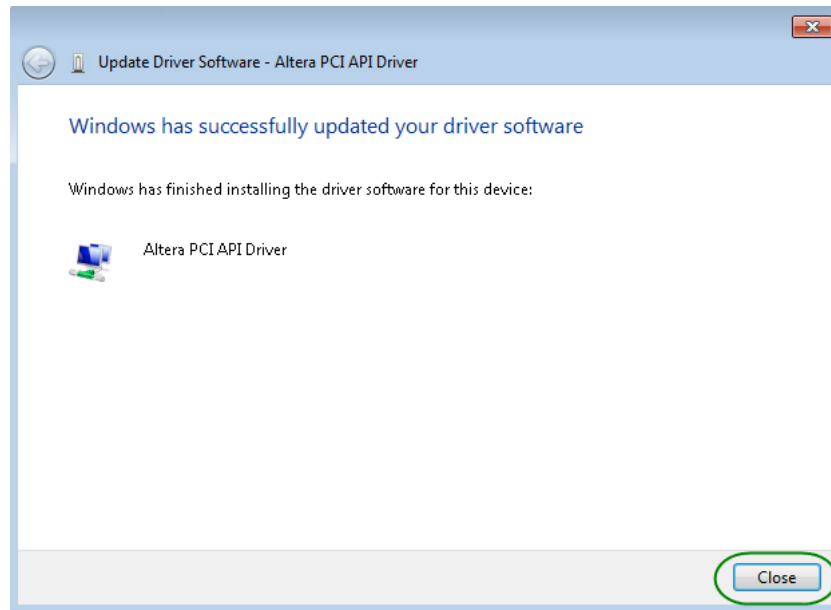

Figure 6-7 Click Close when the installation of the Altera PCI API Driver is complete
9. When the driver is installed successfully, the successfully dialog will appear, as shown in **Figure 6-7**. Click the **Close** button.